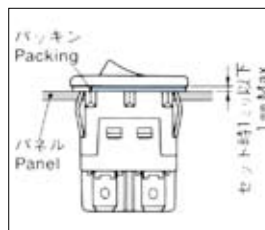

Fig.2.
- スイッチをパネルへ取付けたとき、セット時でパッキン厚が1ミリ以下になるように取付けてください。(Fig.2.参照)
- Mount the switch on the panel so tightly that there is no gap between the packing and the panel. The thickness of the packing shall be less than 1 mm as in Fig. 2.